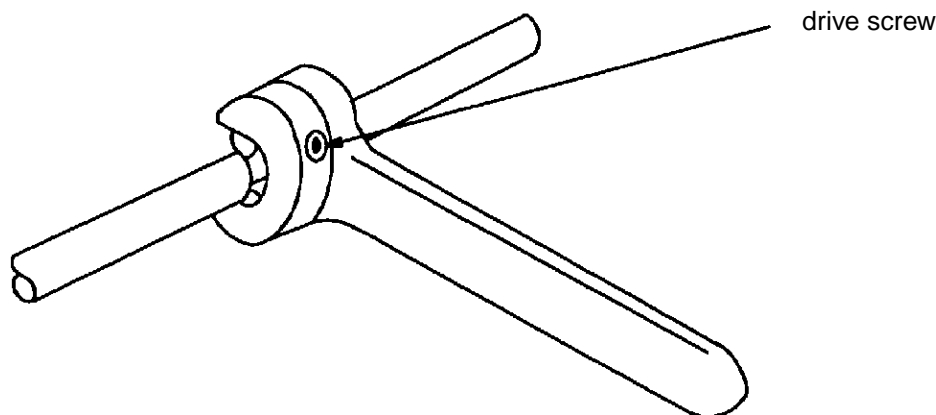

Figure 2 - Chipless Cutter
- Step 1. Loosen the drive screw using a hex wrench and locate the cutter head on the tube in the desired cutting position (see Figure 2). A 1.25" minimum length straight section of tubing must be left at the cut end to allow the Quickfit fitting to seat correctly.